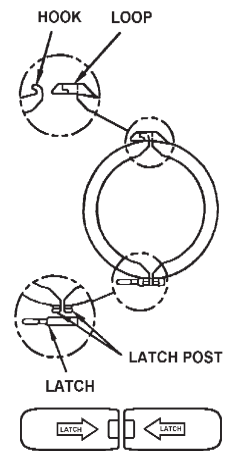

Figure 2. CLAMP ASSEMBLY
- (a) Remove control valve by removing quick connect clamp and using a garden hose or bucket, to fill SOFTENER TANK with water (this filling method prevents air entrapment that can cause loss of resin during initial regeneration procedure). Replace control valve. Make sure clamp is reassembled as shown in Figure 2 "LATCH" arrows should point toward each other.